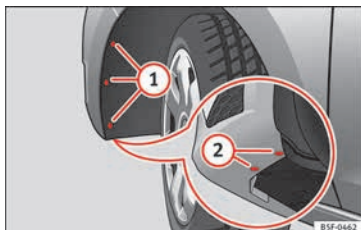

Fig. 112 Fog light: access to the connector and to the light bulb holder.
- Remove the 3 bolts ① » Fig. 112 from the inside of the wheel housing and the 2 bottom bolts ② » Fig. 112 from the bumper with the help of a screwdriver.